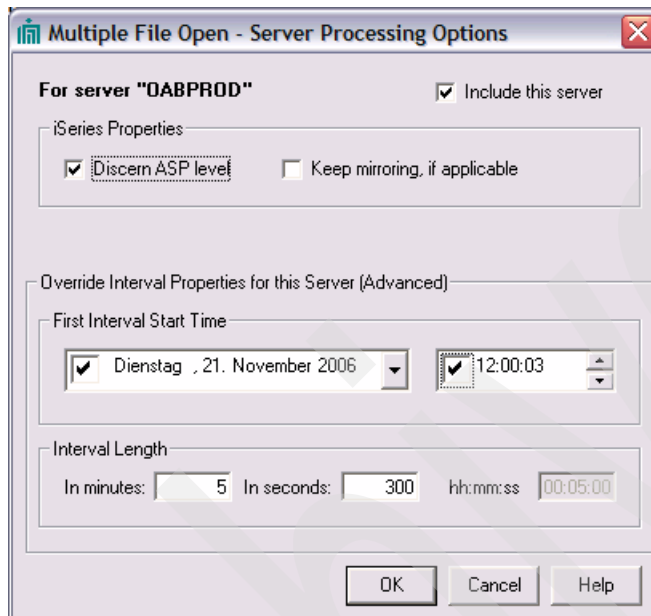

Figure 4-20 Disk Magic - Server processing options
- d. Click **OK** as shown in Figure 4-20.